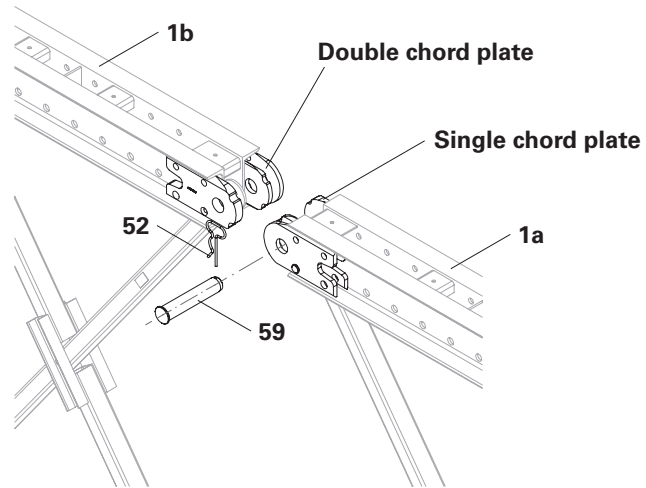

Fig. B1.07
- (Fig. B1.07)
6. Connect the standard frames (**1a + 1b**) using two bolts (**59**) and secure each with a cotter pin (**52**). (Fig. B1.07)